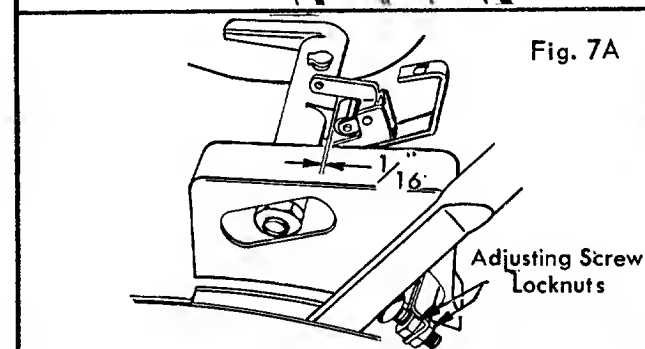

Fig. 7A
3. Loosen adjusting screw locknuts. (Fig. 7A)